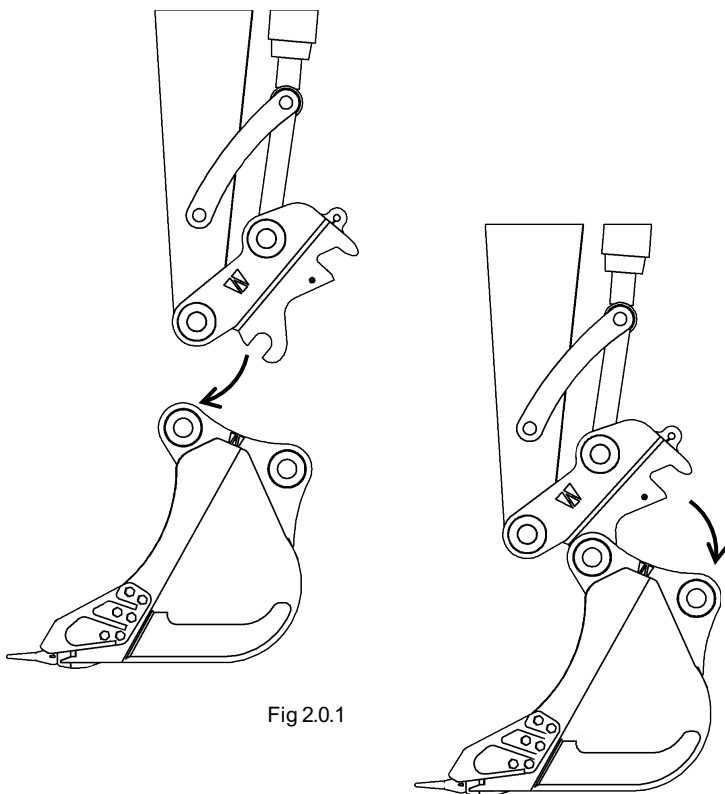

Fig 2.0.1
- Using the excavator arm control levers move the front c-section (front jaw) of the coupler over the first pin (front pin) of the attachment. Seat the first pin into the c-section. (Fig 2.0.1)